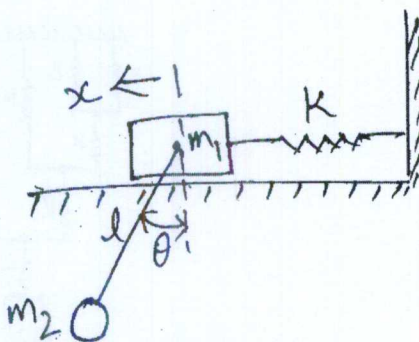

Fig. Q6 (a)
- 6 a. Find the frequencies of the system shown in Fig. Q6 (a). Take  $K = 90$  N/m,  $l = 0.25$  m,  $m_1 = 2$  kg,  $m_2 = 0.5$  kg (10 Marks)